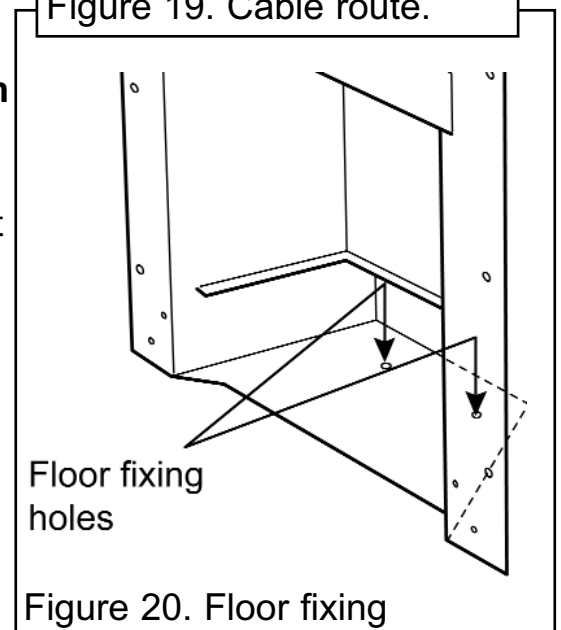

Figure 20. Floor fixing
8. Drill a hole into the fireplace floor through each of the two holes in the base of the hotbox using a suitably sized masonry drill (See figure 20).